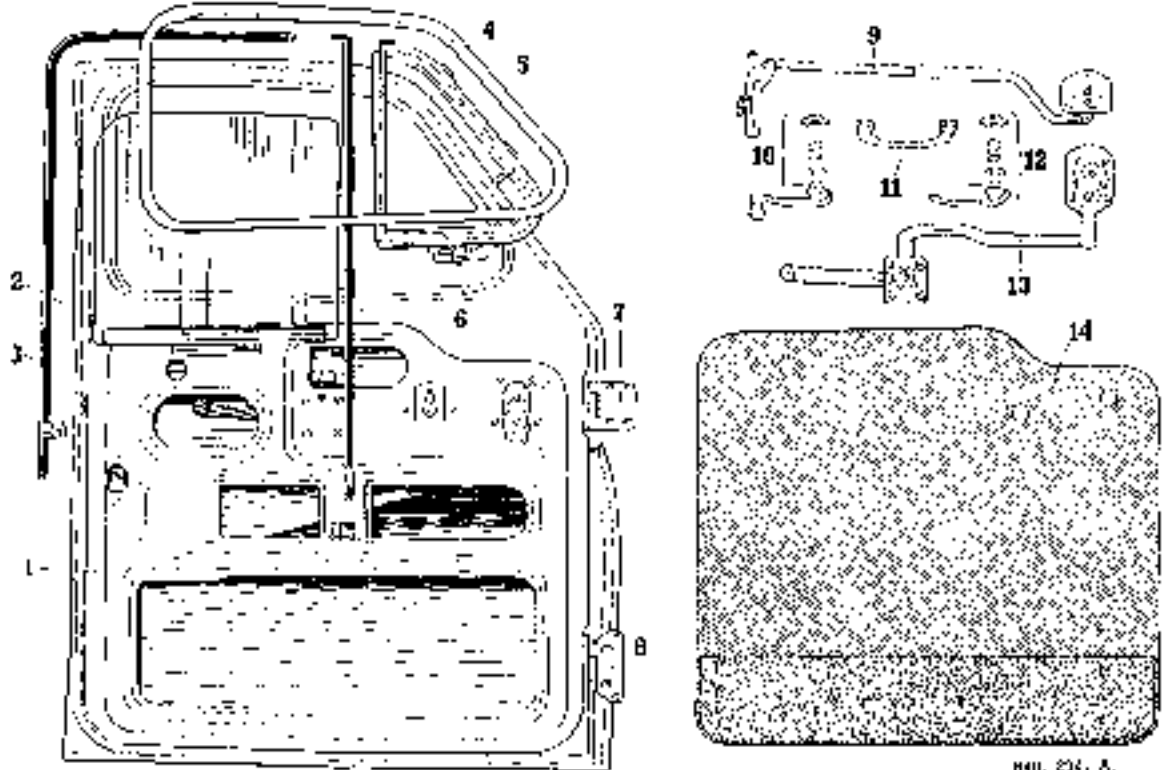

FIG. 10. The near-side front door exploded.
- Caption for Fig. 10.**
On the occasions when it becomes necessary to remove the door inner casing, the opportunity should be taken to oil the window winding and the door locking mechanisms, through the holes provided in the door shell, see Fig. 10.